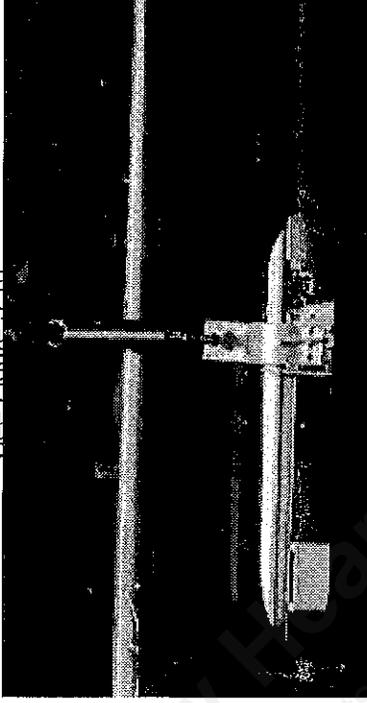

Figure 5.10 Unscrewing Pilot Bracket
- Remove screw that attaches pilot bracket to burner pan. See Figure 5.10.